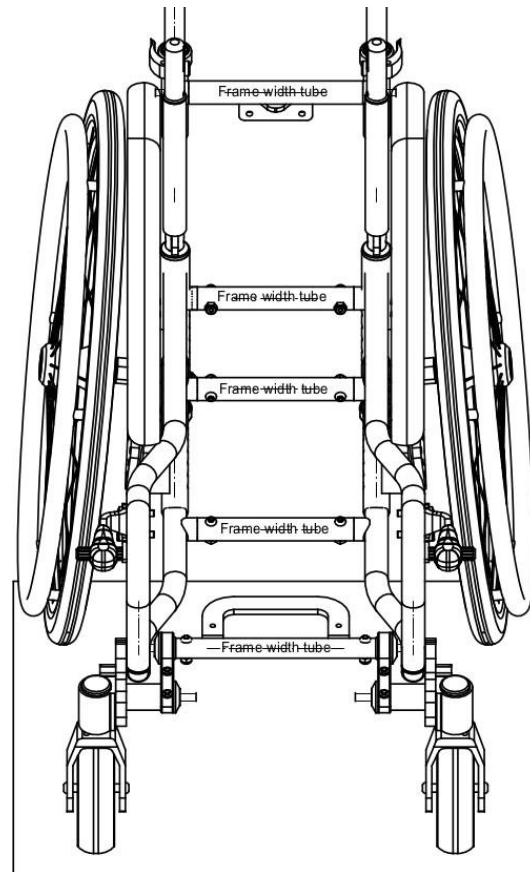

Figure 7: Seat depth and width
- Also frame width tubes need to be adjusted. See picture below (Figure 7):